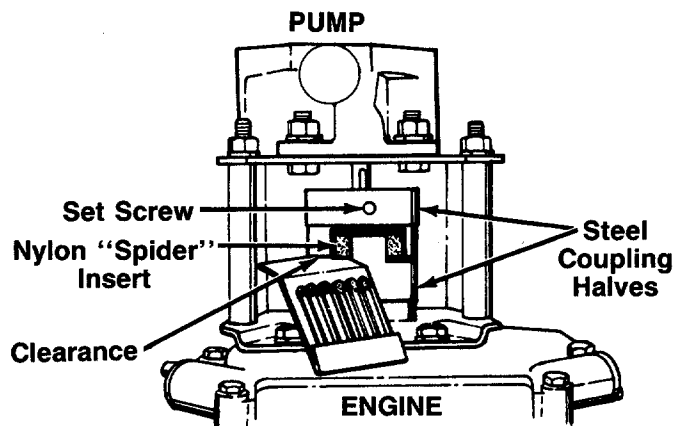

FIGURE 23.—Bottom View
- Adjust the two coupling halves (steel) so there is between .010" and .060" clearance between the two halves (at least the thickness of a matchbook cover, up to 1/16" maximum). See figure 23. Tighten the set screw in the coupling half on the pump shaft.